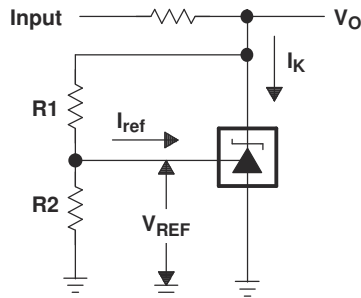

Figure 4-4. Test Circuit for $V_{KA} > V_{REF}$
- REF is connected to ground and cathode via resistors as shown in the Figure 4-4